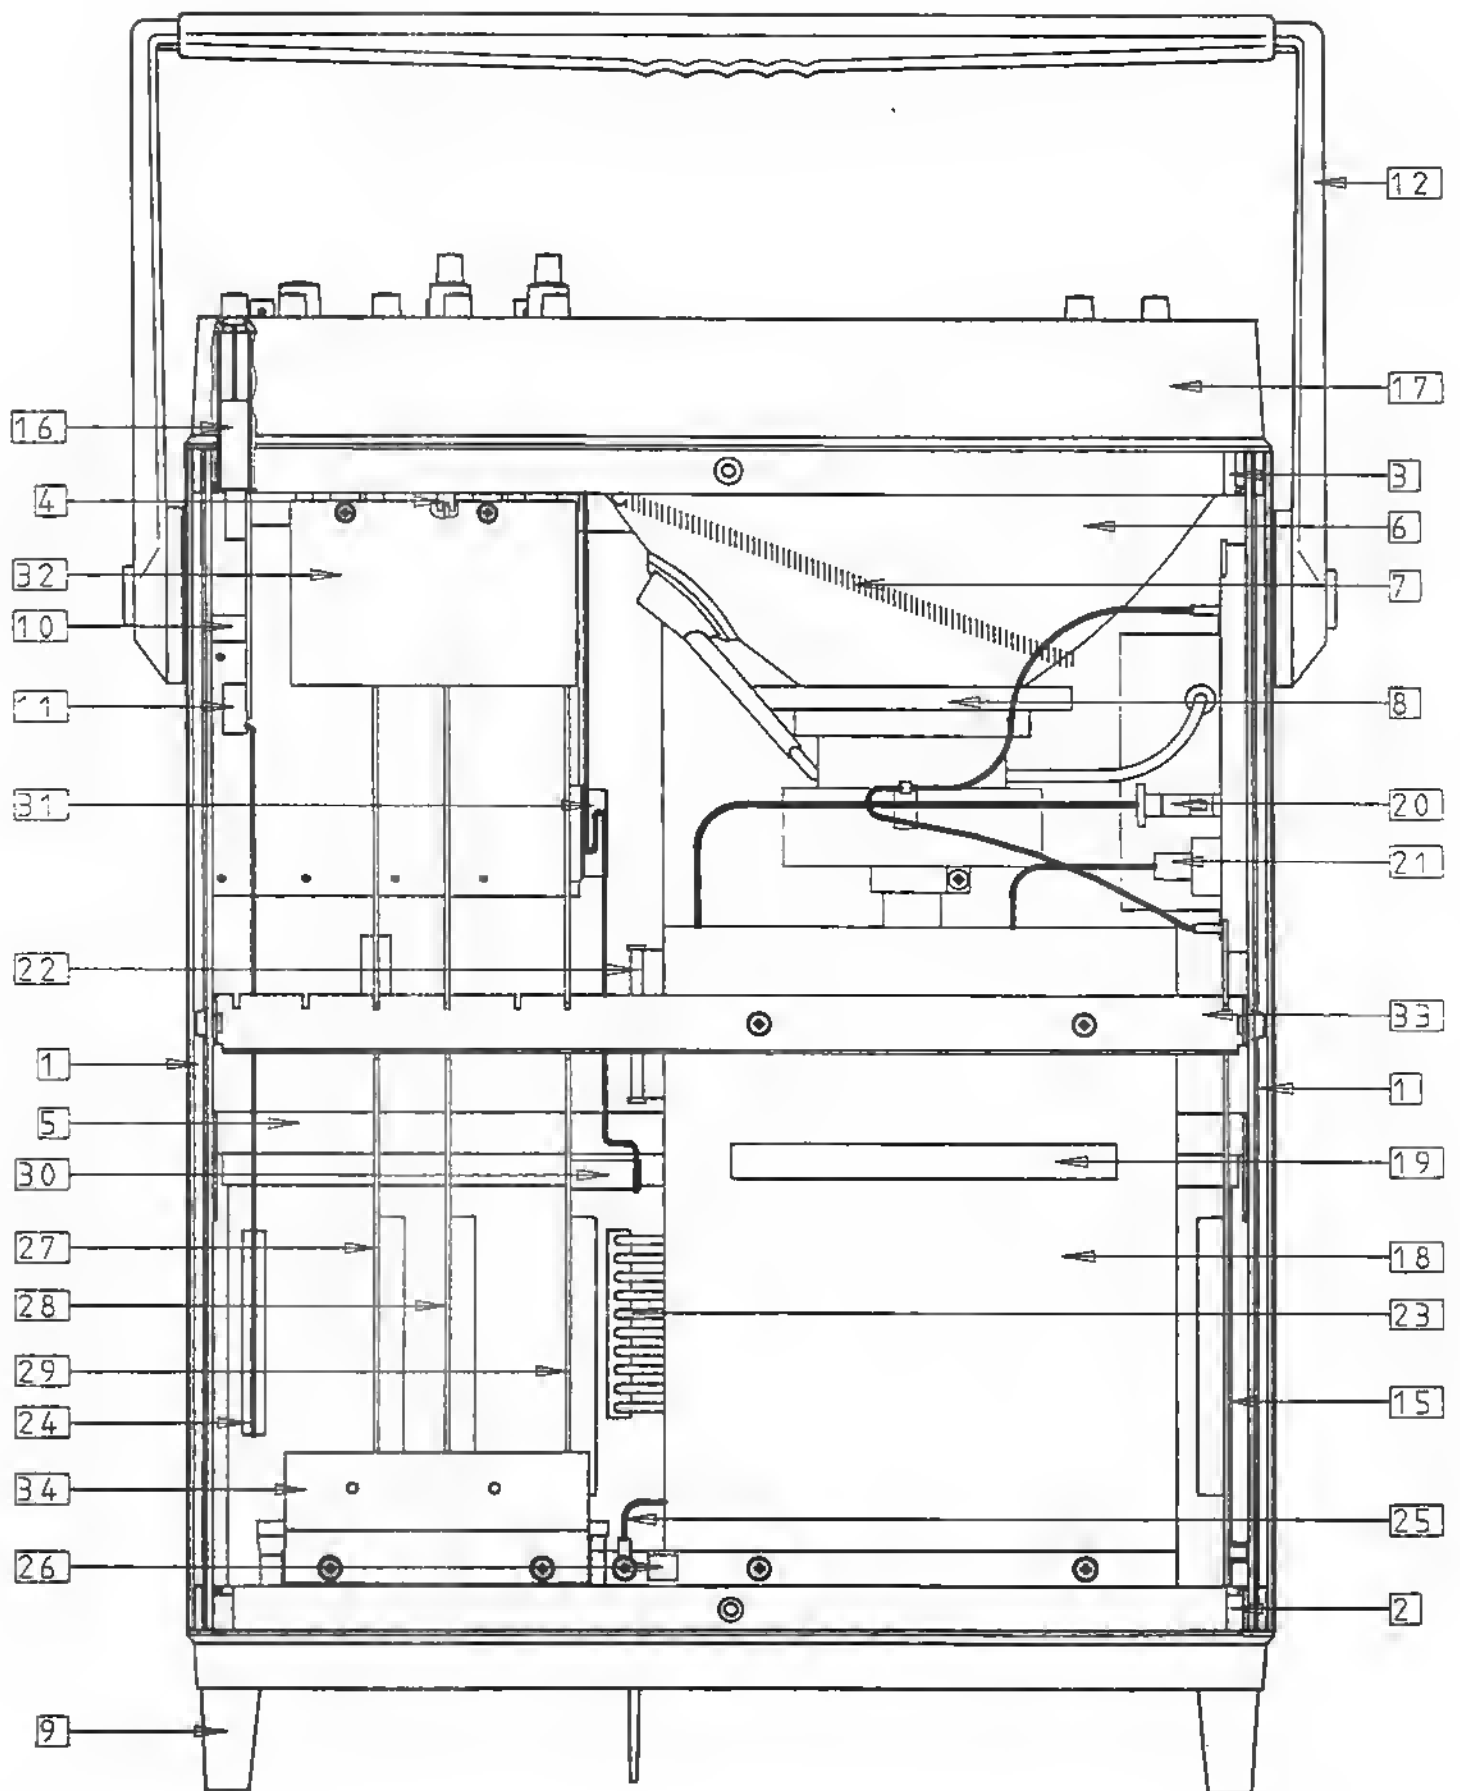

Figure 4.1
The disassembly and assembly procedures detailed below refer to the assembly and disassembly diagram and the view of figure 4.1.,4.2.,4.3.
The top (37) and bottom (36) covers are each secured by four M4X8 screws and washers. To remove the bottom (36) cover turn the handle (12) to the forward position. See figure 4.1 and 4.2
The power supply support (33) and the card retainer (34) hold the F9450-2 (15), F9410-6 (29), F9410-3 (28) F9420-4 (27), and the F9451-1 or 94XX-1701 (18) power supply in place and must be removed if any of these boards is to be removed. They are fixed with screws and washers see figure 4.1 and 4.2.